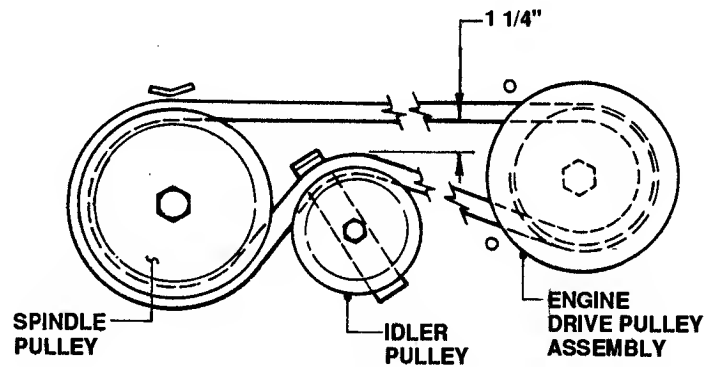

FIGURE 3.5
- Measure the distance between belt at idler pulley. See Figure 3.5. The distance between belt should be 1-1/4" but no less than 1".